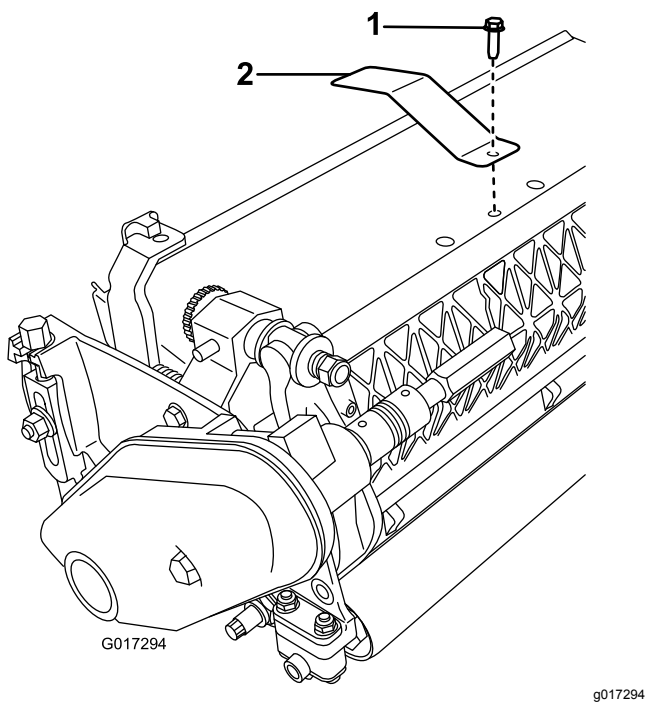

Figure 3
2. Remove the center, grass-shield bolt (Figure 3).
3. Install the target plate to the top of the cutting unit with the bolt that you previously removed (Figure 3).